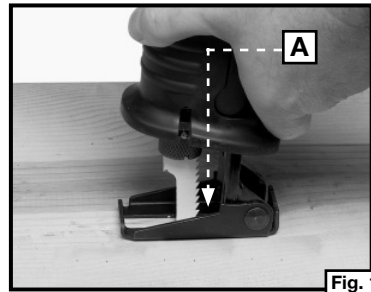

Fig. 11
The Model 750 is supplied with a keyless Quik-Change™ guide shoe. The pivoting guide shoe (A) Fig. 11 serves as a rest while making a cut and can be adjusted to accommodate many types of cutting applications.